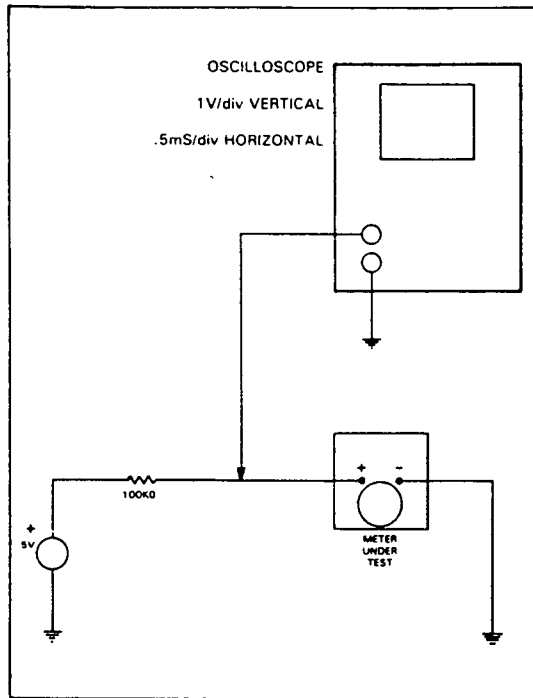

Figure 1
5. Place the scope lead as shown in figure 1 and set the vertical position of the scope for the bottom of the display.